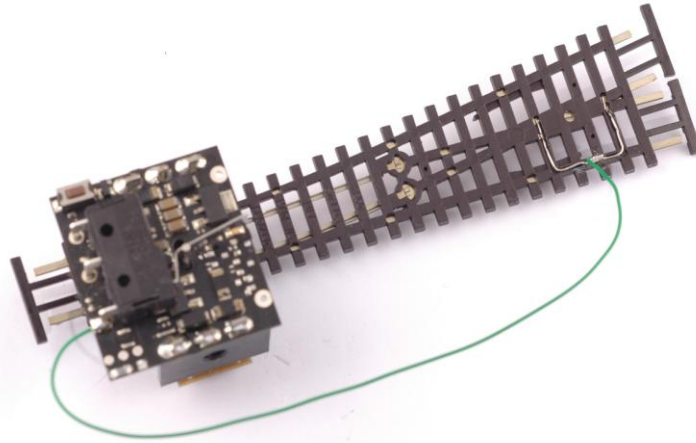

Figure7
On all Electro-frog points you will need to connect one wire from the point Frog (V) to the wiper of the switch. Figure 7 shows an example of a connection for an N gauge point but it is applicable to OO as well.